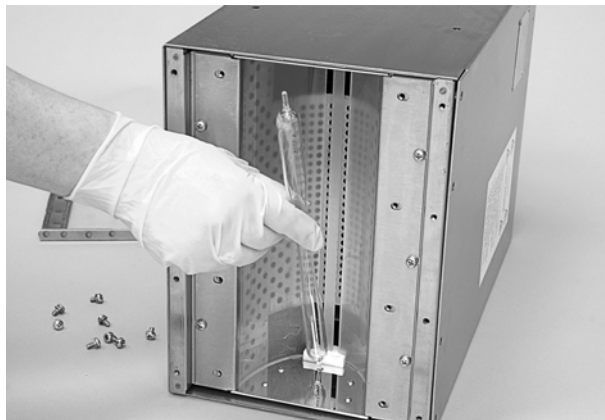

Figure 6-4 Bulb Removal and Replacement
4. See Figure 6-4. The bulb is held in place by springs inside the retaining holes at each end of the lamp. Grasp both ends of the bulb and push one end into its retaining hole until the other end comes free. Carefully tilt the bulb to the side just enough to remove the retained end from the hole. Tilting the bulb too much could break off the tip of the bulb.